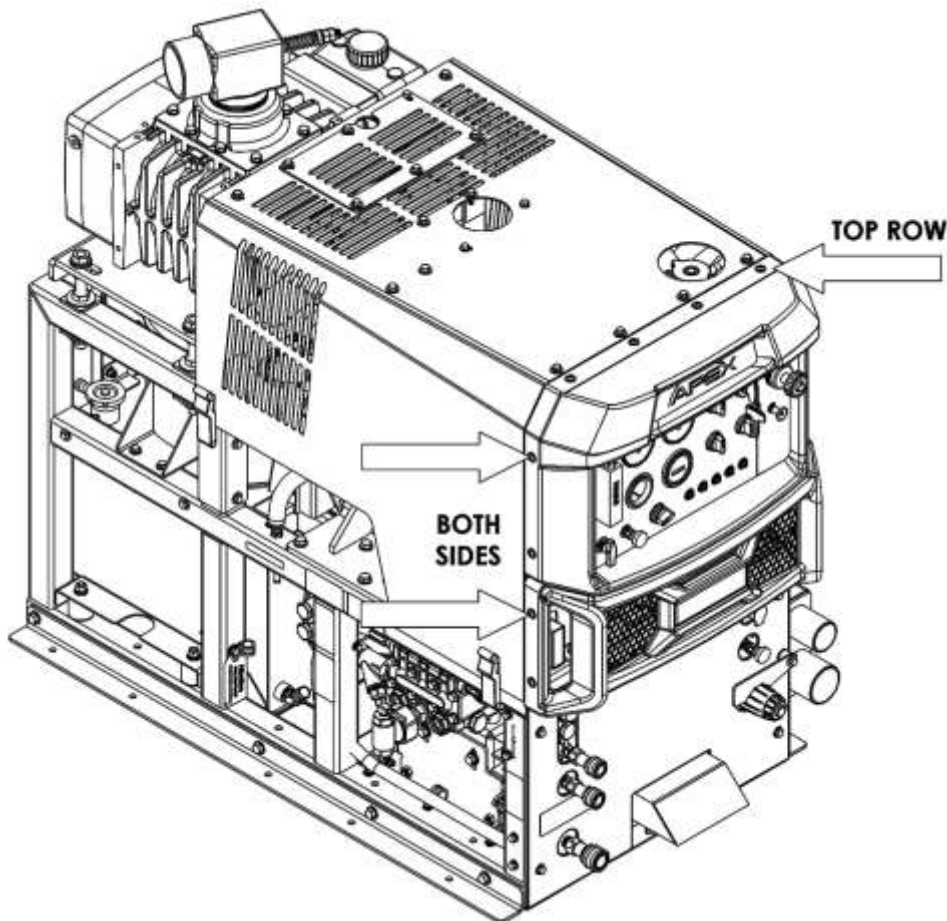

Figure 1 - Top and Side Bezel Screws
1. Remove the upper and lower front end bezel components by removing the twelve screws around the perimeter (shown in Figure 1), removing the upper section first, then the lower section and carefully set them aside.